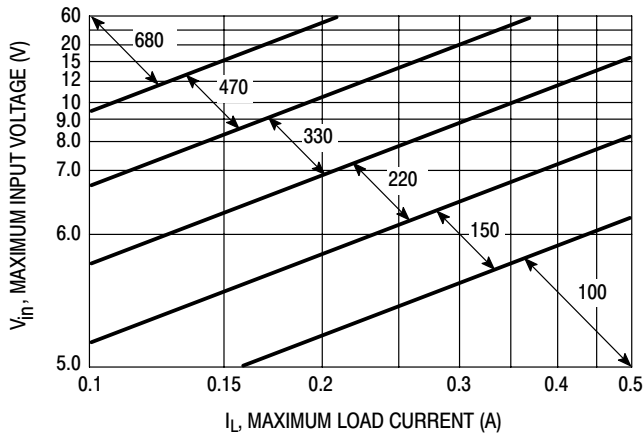
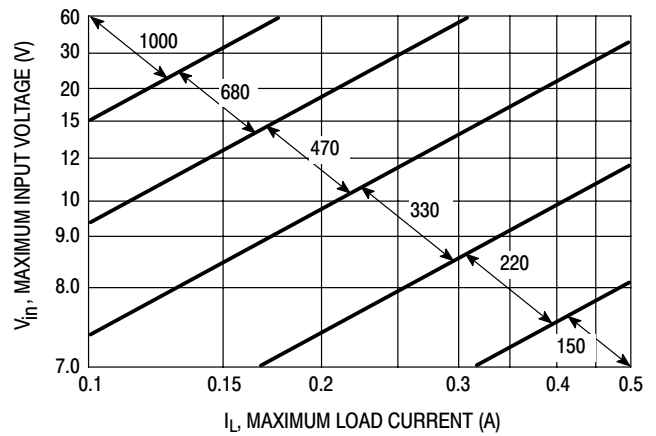

Figure 19. LM2574-3.3
Figure 20. LM2574-5
4. Inductor Selection (L1) A. According to the required working conditions, select the correct inductor value using the selection guide from Figures 19 to 23. B. From the appropriate inductor selection guide, identify the inductance region intersected by the Maximum Input Voltage line and the Maximum Load Current line. Each region is identified by an inductance value and an inductor code. C. Select an appropriate inductor from the several different manufacturers part numbers listed in Table 2. The designer must realize that the inductor current rating must be higher than the maximum peak current flowing through the inductor. This maximum peak current can be calculated as follows: $I_{p(max)} = I_{Load(max)} + \frac{(V_{in} - V_{out})t_{on}}{2L}$ where t_{on} is the “on” time of the power switch and $t_{on} = \frac{V_{out}}{V_{in}} \times \frac{1.0}{f_{osc}}$ For additional information about the inductor, see the inductor section in the “EXTERNAL COMPONENTS” section of this data sheet.	4. Inductor Selection (L1) A. Use the inductor selection guide shown in Figure 20. B. From the selection guide, the inductance area intersected by the 15 V line and 0.4 A line is 330. C. Inductor value required is 330 μH . From Table 2, choose an inductor from any of the listed manufacturers.
To simplify the inductor selection process, an inductor selection guide for the LM2574 regulator was added to this data sheet (Figures 19 through 23). This guide assumes that the regulator is operating in the continuous mode, and selects an inductor that will allow a peak-to-peak inductor ripple current to be a certain percentage of the maximum design load current. This percentage is allowed to change as different design load currents are selected. For light loads (less than approximately 0.2 A) it may be desirable to operate the regulator in the discontinuous mode, because the inductor value and size can be kept relatively low. Consequently, the percentage of inductor peak-to-peak